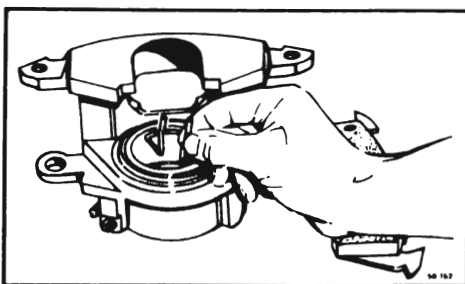

Figure 50-38--Inserting Shoe Support Spring
3. Place the shoe support spring in the center of the piston as shown in Figure 50-38